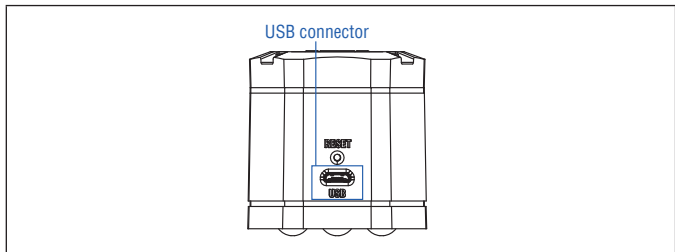

Fig. 38: USB port on the TempoLink® smart assistant
1. Connect the USB cable with the micro USB connector to the port labeled "USB" on the TempoLink® smart assistant (Fig. 38).